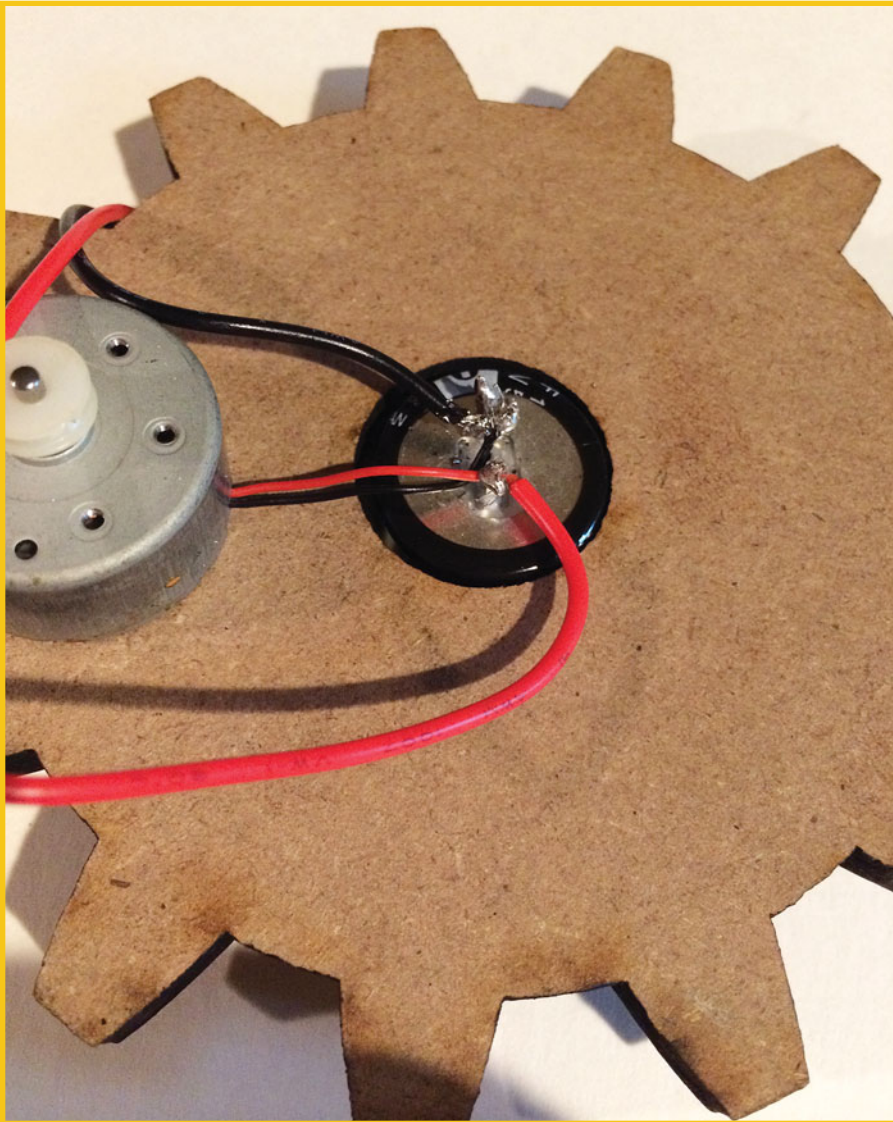

FIGURE 4.29 You guessed it—now connect the negatives.
STEP 2 Connect the negative lead of the solar panel to the negative lead of the capacitor, and then solder both to the negative port of the motor. See Figure 4.29.